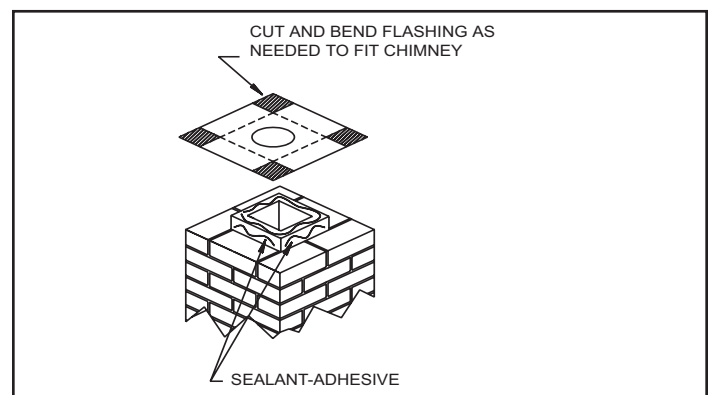

Figure 5.26
Step 3 - Secure the flashing to the top of the masonry chimney using a bead of non-hardening sealant-adhesive. If the flashing is larger than the top of the chimney, cut and fold flashing as needed to fit chimney, Figure 5.26.